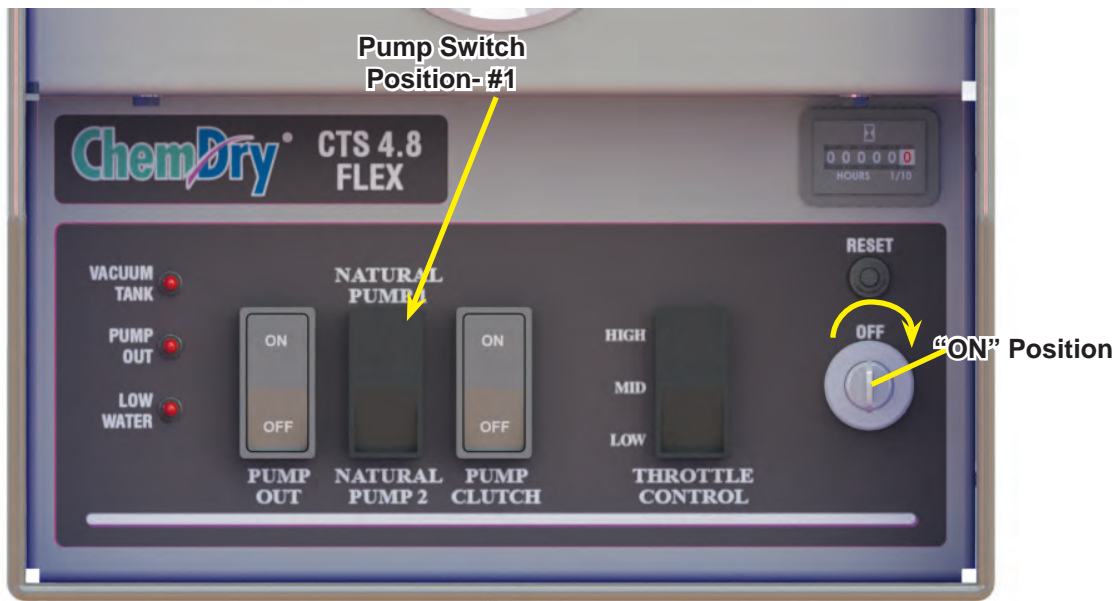

Figure 97. CDS Flex Dash Panel, Showing Pump Switch Position for Pump #1
2. Turn the CDS key to the "ON" position but do not start the CDS unit (see Figure 97).
3. Turn on the driver's side pump (Pump 1) until all air is bled from the system (see Figure 97).